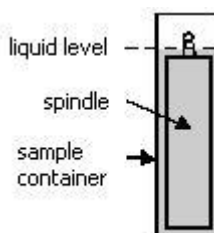

Fig. 11: Full LCP adapter.
- Close the sample (K) container with the stopper (M).
- Insert the container (K) to the lower part, in the circulation jacket (J) by turning it gently.
- Fasten the circulation jacket (J) to the connector (G).
- Connect the hook (H) and the spindle (L)
- Insert the spindle (L) in the circulation jacket (See the note \* below)
- Fasten the connector (G) to the hole in the back of the viscometer's metallic base. **(See the note \*\* below)**
- Check the level of the sample. It should be approximately in the middle of the cone, which is connected to the spindle connector (H). Figure 11 shows more information about this.
- Place the upper stopper (N) over the sample container.